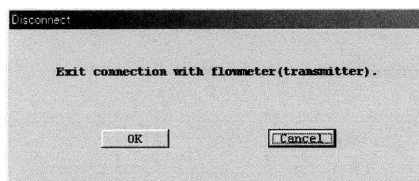

Fig.12
- ② At the message box as shown in Fig. 12, click on "OK." This brings the connection between the flowmeter and LinkTop to come to an end.
- ③ Clicking on "Cancel" abandons the process of terminating the connection.